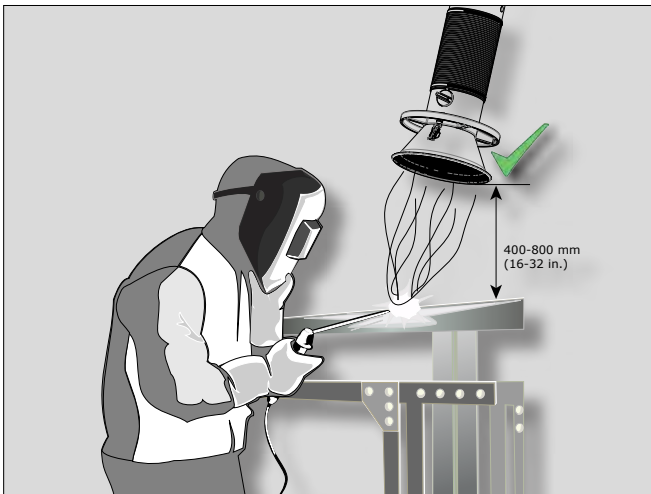
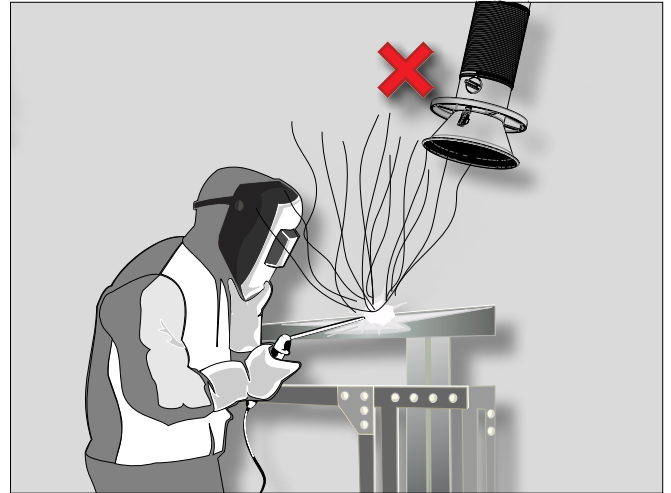

Fig. 2
Fig. 3
- Position the hood of the extraction arm at 400-800 mm from the source of pollution. Refer to the images for the correct position; Fig. 2 is right; Fig. 3 is wrong.